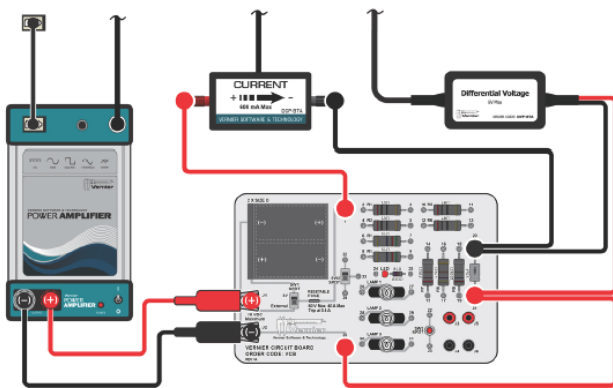

Figure 2
- a. Set up the circuit with a $10\ \mu\text{F}$ capacitor in series with a current probe, as shown in Figures 2 and 3. The Voltage Probe will measure the potential difference across the capacitor plates.